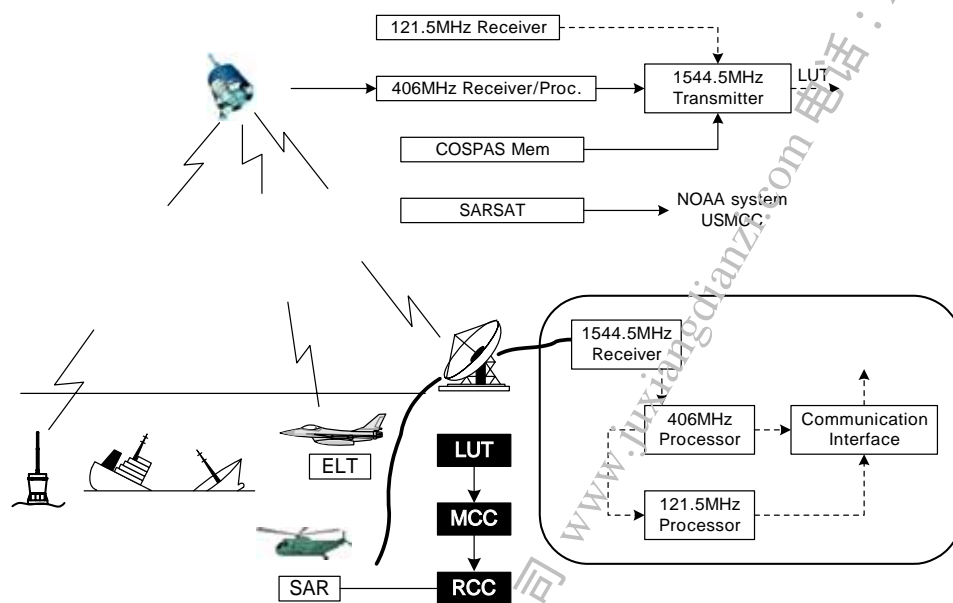

Fig. 1 Basic concept of COSPAS-SARSAT
**406MHz satellite EPIRB** is used to COSPAS-SARSAT system in the GMDSS(Global Maritime Distress and Safety System) such as Fig.1. It is a global distress warning system operating on an exclusive identification and distress signal at emergency situation, is consisted beacon and safety container.